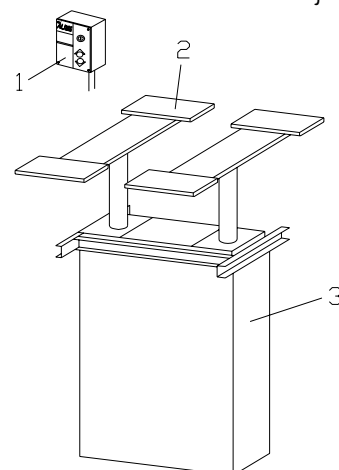

Fig.2
4. BESCHRIJVING VAN DE HEFBRUG (Fig.2)